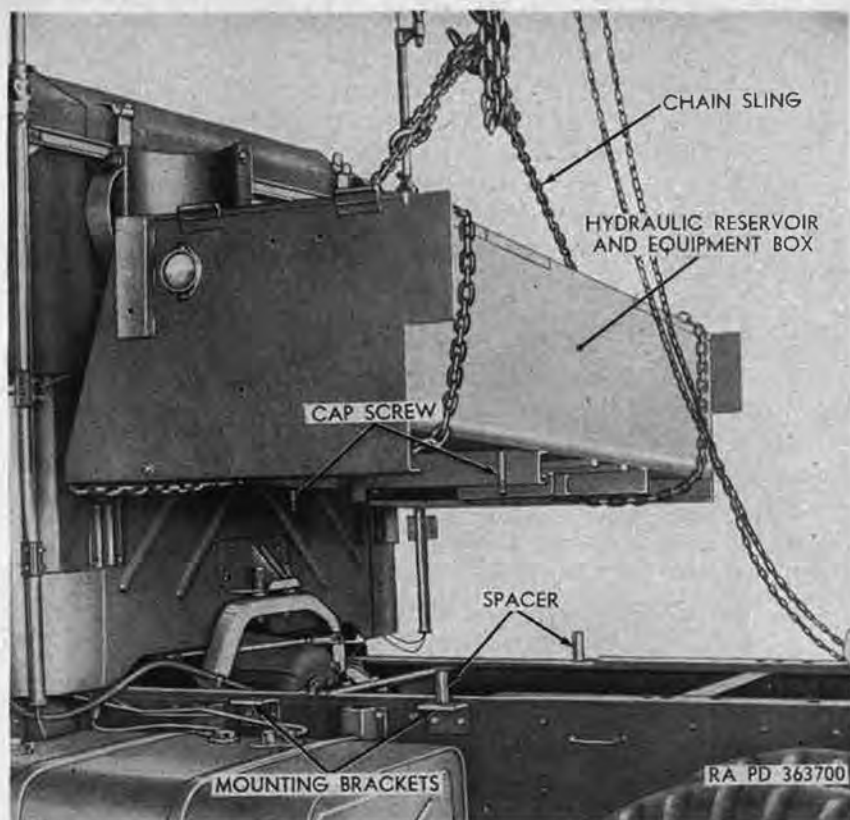

Figure 309. Removing hydraulic reservoir and equipment box M62.
- (4) Attach a chain sling (fig. 309) and overhead hoisting equipment to reservoir, and lift reservoir from mounting brackets and remove from vehicle.
Note. Be careful not to lose spacers (fig. 309).
- (5) Remove four cap screws (fig. 309), two from each end, from reservoir.
- (1) Insert four cap screws (fig. 309), two at each end, in holes in reservoir and equipment box.
- (2) Make sure that spacers (fig. 309) are in position on mounting brackets, and using chain sling and hoist, position hydraulic reservoir and equipment box on brackets.